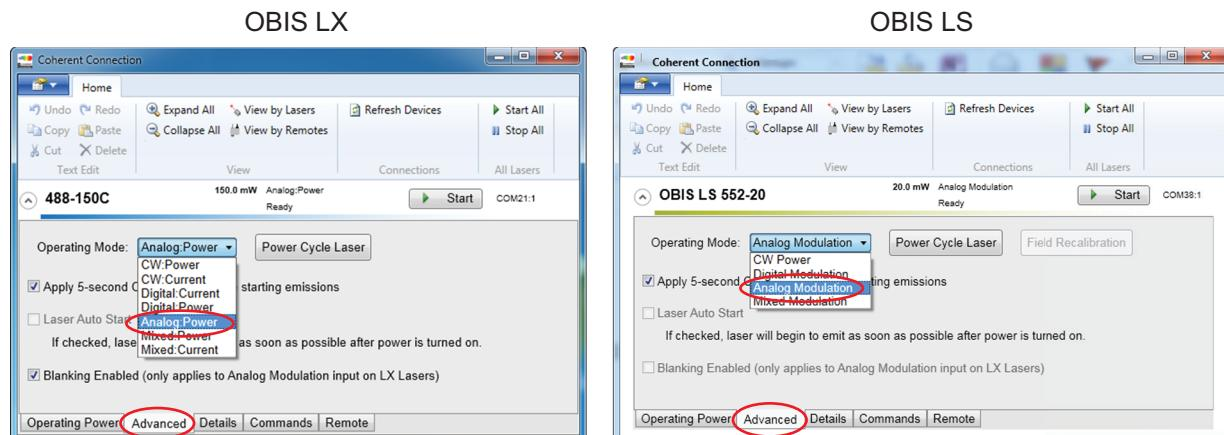

Figure 6-6. Power Control through Analog Modulation
2. On the Advanced tab in the *Operating Mode* drop-down menu, shown in Figure 6-6, select: